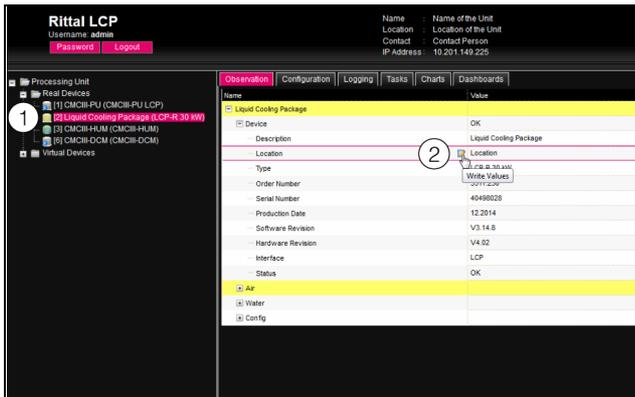

Fig. 112: Selecting an individual parameter
- One after the other, open the "Liquid Cooling Package" and "Device" entries by clicking on the "plus" symbol in front of the entry (fig. 112, item 1).
- Position the mouse pointer at the end of the first column in the "Location" line (fig. 112, item 2). An "Edit" symbol will appear, and the mouse pointer will change to a "Hand" symbol.